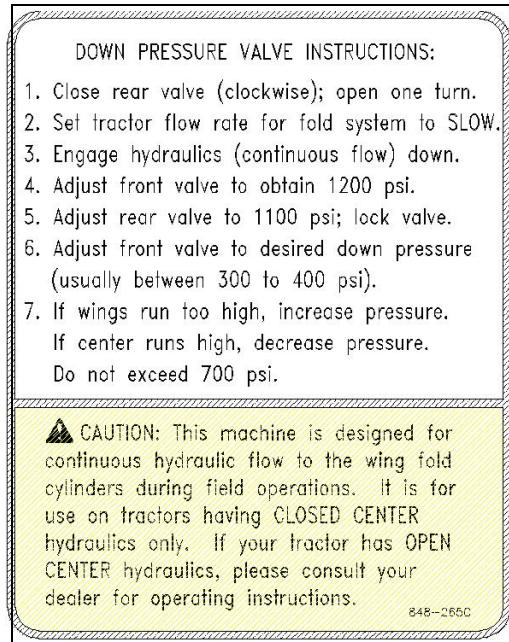

Figure 20
Note: This setup procedure is for tractors with closed-center or pressure compensated flow hydraulic systems. Open center hydraulics not supported. Adjust down pressure valve as shown on decal ③ (located on front of left side of center frame) *Refer to Figure 20.*